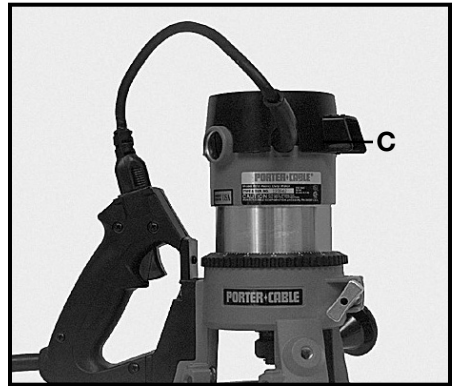

Fig. 4
4. Rotate the motor unit into the base CLOCK-WISE until the motor switch (C) is opposite the handle (Fig. 4).
5. Connect the motor unit cord to the outlet in handle (Fig. 4).